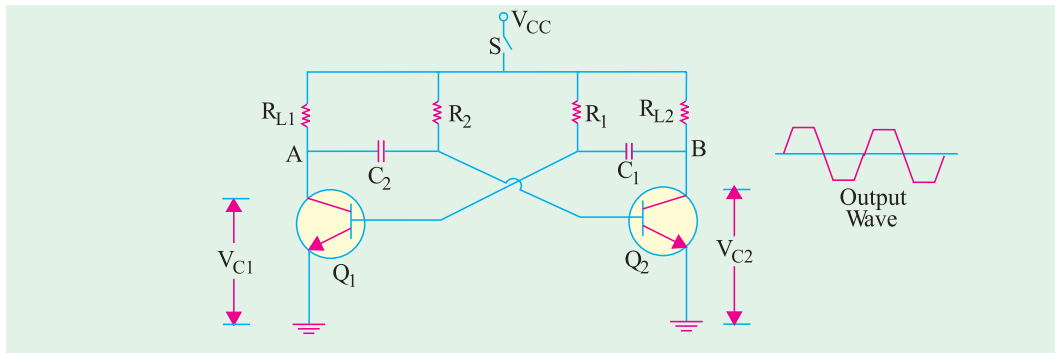
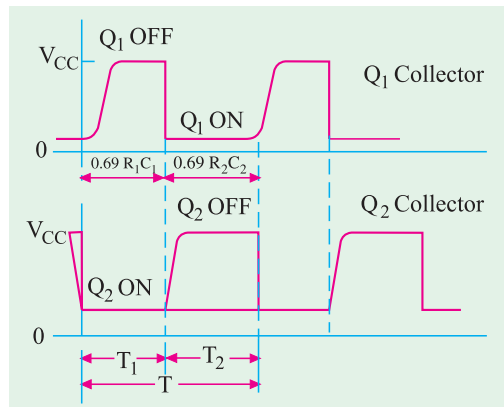
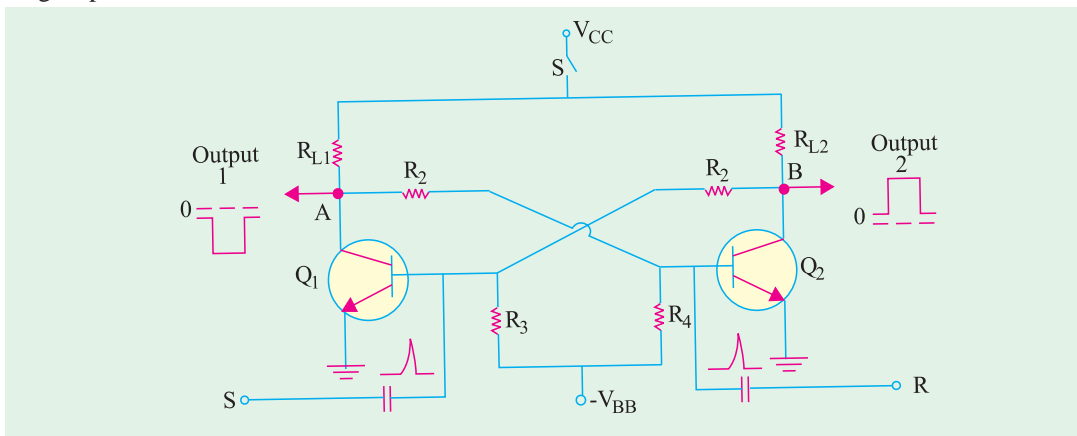

Fig. 65.27
Fig. 65.28
Fig. 65.33
Fig. 65.27 shows the circuit of a symmetrical collector-coupled AMV using two similar transistors. It, in fact, consists of two *CE* amplifier stages, each providing a feedback to the other. The feedback ratio is unity and positive because of  $180^\circ$  phase shift in each stage. Hence, the circuit oscillates. Because of the very strong feedback signal, the transistors are driven either to saturation or to cut-off (they do not work on the linear region of their characteristics).
The output can be taken either from point A or B though these would be phase-reversed with respect to each other as shown in Fig. 65.27.
It is seen that the circuit alternates between a state in which  $Q_1$  is ON and  $Q_2$  is OFF and a state in which  $Q_1$  is OFF and  $Q_2$  is ON. The time in each state depends on  $RC$  values. Since each transistor is driven alternately into saturation and cut-off the voltage waveform at either collector (points  $A$  and  $B$  in Fig. 65.27) is essentially a square waveform with a peak amplitude equal to  $V_{CC}$  (Fig. 65.28).
**Example 65.17.** In the AMV circuit of Fig. 65.27,  $R_1 = R_2 = 10\text{ K}$ ,  $C_1 = C_2 = 0.01\text{ }\mu\text{F}$  and  $R_{L1} = R_{L2} = 1\text{ K}$ . Find
The basic circuit is shown in Fig. 65.33. As stated earlier, it has **two absolutely stable** states. It can stay **in one of its two states indefinitely** (as long as power is supplied) changing to the other state only when it receives a trigger pulse from outside. When it receives another triggering pulse, only then it goes back to its original state. Since one trigger pulse causes the *MV* to 'flip' from one state to another and the next pulse causes it to '**flop**' back to its original state, the *BMV* is also popularly known as '**flip-flop**' circuit.
The *BMV* circuit shown in Fig. 65.33 differs from the *AMV* circuit of Fig. 65.27 in the following respects :